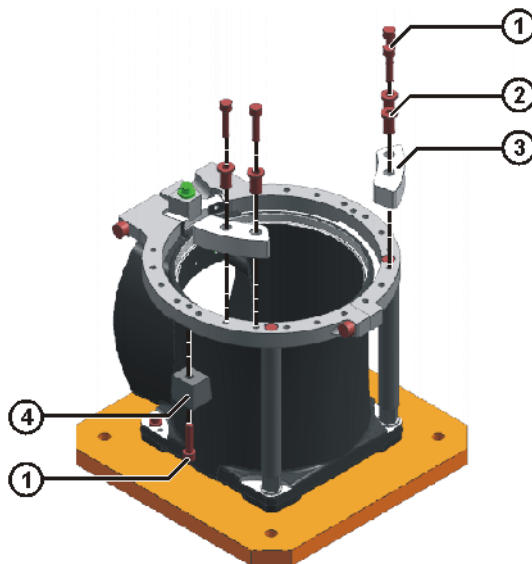

Fig. 8-3: Fastening supplementary stop and support block
8. Fasten each of the support blocks by means of 1 M8x35-10.9 Allen screw inserted into the slot of the support segment from below; tightening torque $M_A = 31.0 \text{ Nm}$ (>>> Fig. 8-3).